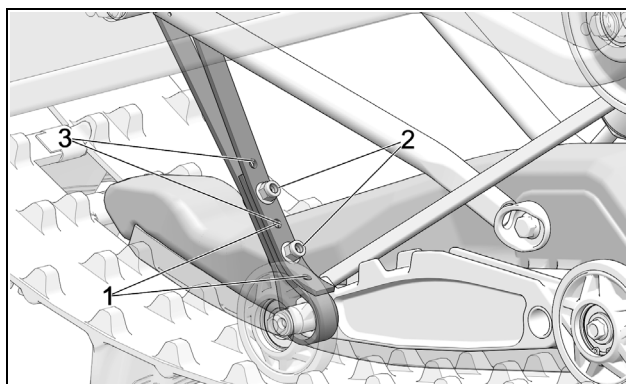

Figure 15
- The Limiter Strap has 3 adjustment settings: Figure 15.